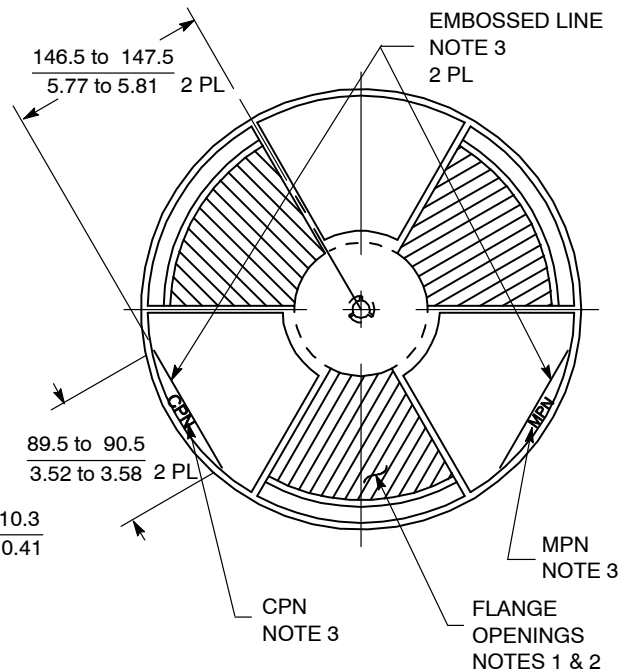

Figure 38. Front View of 330 mm (12.99 in) Reel
- If there are any flange opening on the front flange of the 330 mm (13.0 in) reel they must be designed in locations so that two of the 41.3 mm (1.65 in) by 125 mm (4.90 in) ON Semiconductor barcode labels can be applied parallel to each other as in Figure 38.